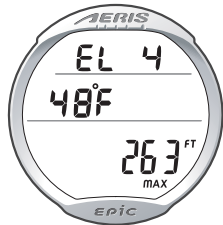

Fig. 76 - HISTORY 2
**HISTORY 2** screen information includes (Fig. 76):